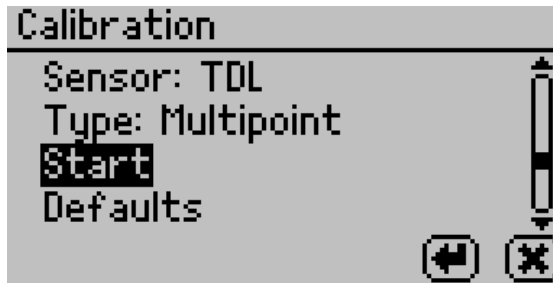

Figure 59 Calibration screen with Defaults selected
3. Select **Defaults** to access the Restore Factory Defaults routine (Figure 59).